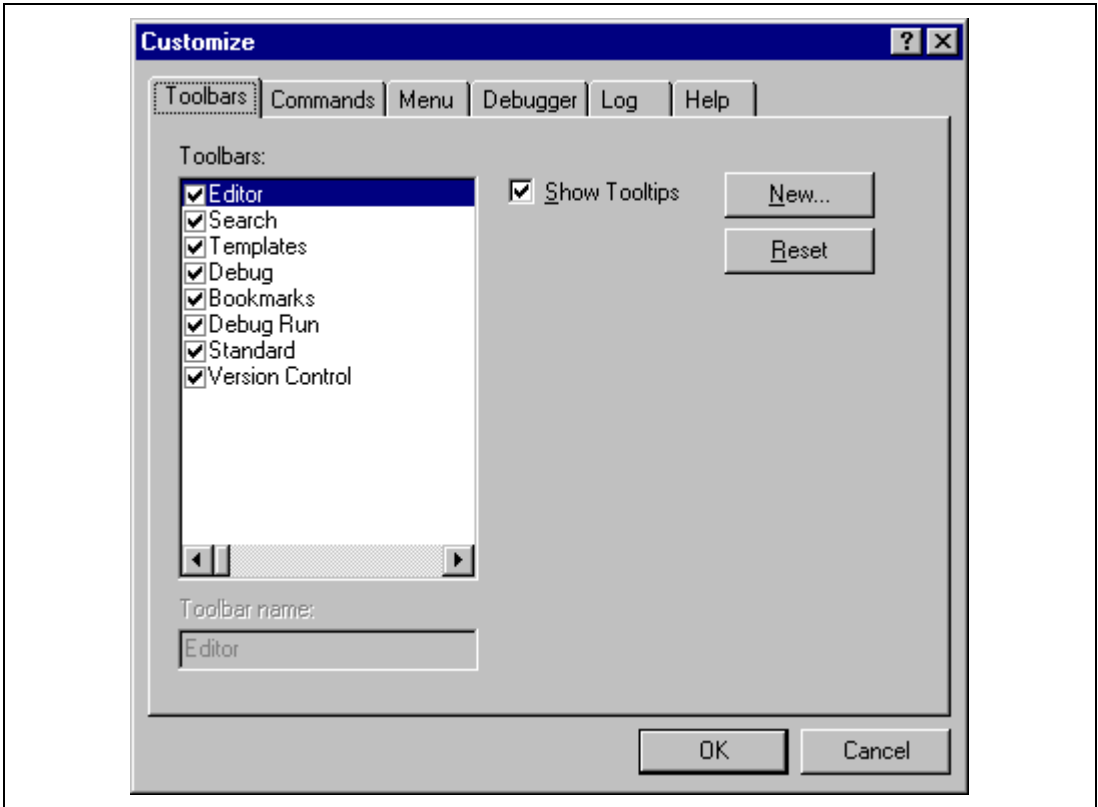
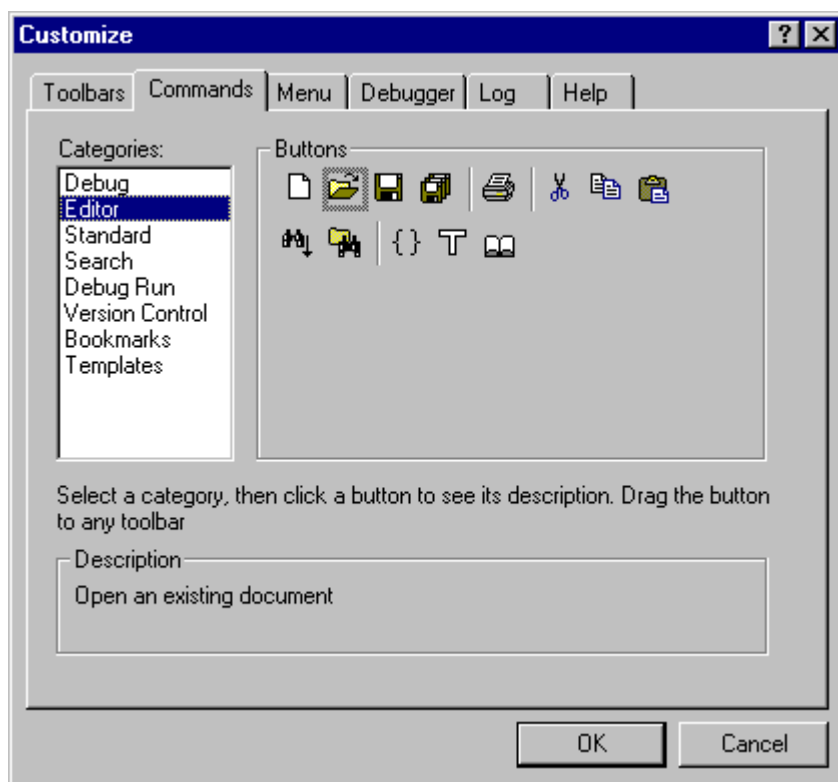
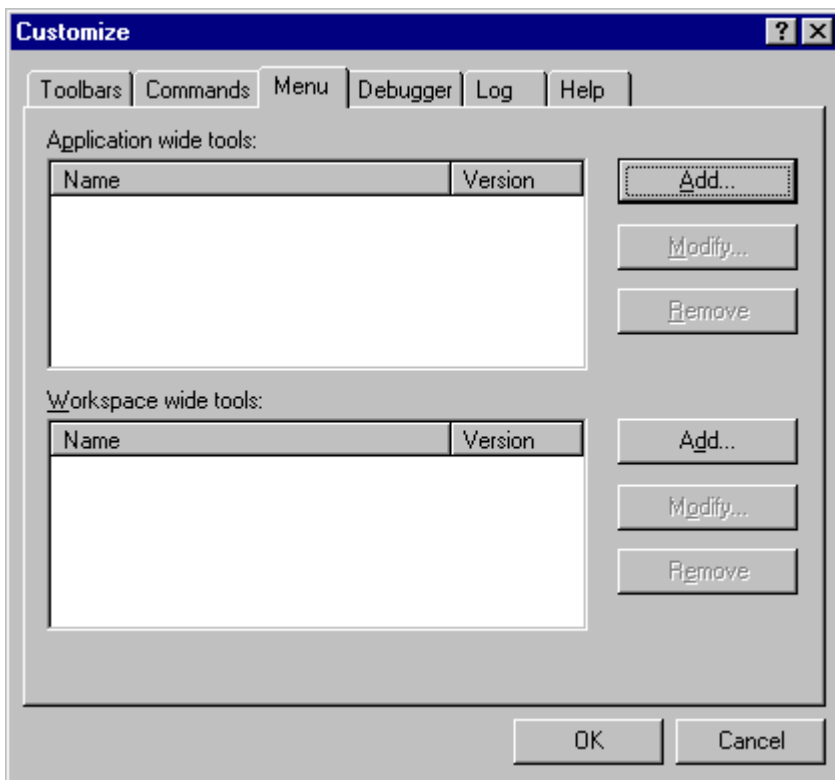
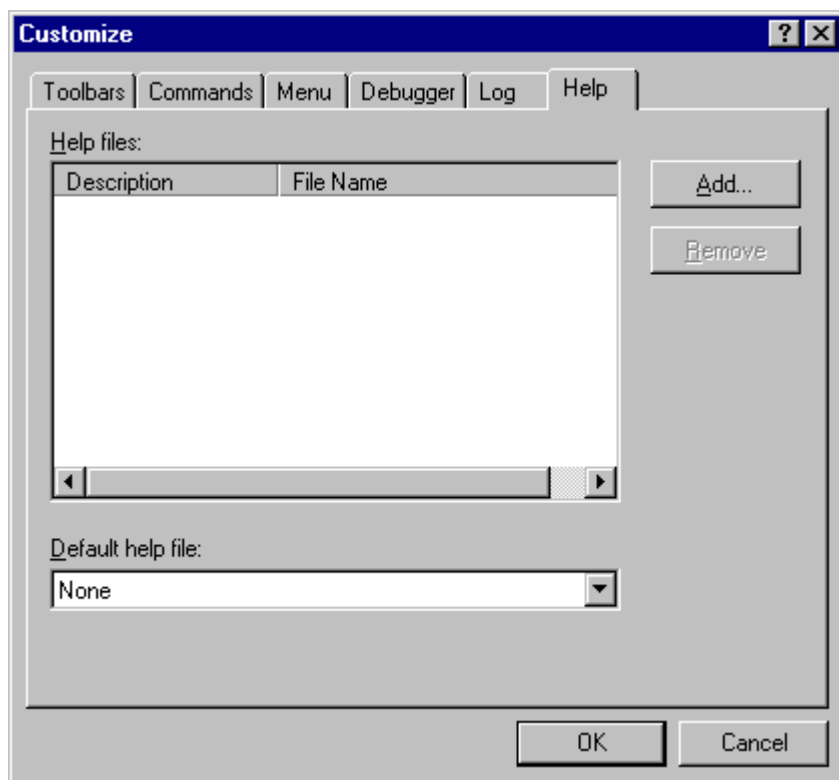

Figure 6.1: Customize Dialog Toolbars Tab
Figure 6.3: Customize Dialog Commands Tab
Figure 6.4: Customize Dialog Menu Tab
Figure 6.7: Customize Dialog Help Tab
The High-performance Embedded Workshop provides 2 standard toolbars as detailed in chapter 1, “Overview”. In addition to these, you may also construct your own toolbars via the * MERGEFORMAT “Customize” dialog (figure 6.1).
1. Select [**Tools->Customize...**]. The dialog shown in * MERGEFORMAT figure 6.1 will be displayed.
1. Select **[Tools->Customize...]**. The dialog shown in * MERGEFORMAT figure 6.1 will be displayed. Select the “Commands” tab (see * MERGEFORMAT figure 6.3).
1. Select [**Tools->Customize...**]. The dialog shown in * MERGEFORMAT figure 6.1 will be displayed. Select the “Commands” tab (see * MERGEFORMAT figure 6.3).
2. Select the user-defined toolbar from the “Toolbars” list, and the “Reset” button in * MERGEFORMAT figure 6.1 changes to the “Delete” button. Then click the “Delete” button.
1. Select [**Tools->Customize...**]. The dialog shown in * MERGEFORMAT figure 6.1 will be displayed. Select the “Menu” tab (see * MERGEFORMAT figure 6.4). The first thing for you to decide is whether you are adding a global application wide tool (“Application wide tools:”), which will be available to all of your workspaces. Or whether you wish to add a workspace wide tool (“Workspace wide tool:”), which is only valid for the current workspace. Once you have made the choice choose the relevant section of the dialog.
1. Select [**Tools->Customize...**]. The dialog shown in * MERGEFORMAT * MERGEFORMAT figure 6.1 will be displayed. Select the “Menu” tab (see figure 6.4).
1. Select [**Tools->Customize...**]. The dialog shown in * MERGEFORMAT figure 6.1 will be displayed. Select the “Menu” tab (see * MERGEFORMAT figure 6.4).
1. Select [**Tools->Customize...**]. The dialog shown in * MERGEFORMAT figure 6.1 will be displayed. Select the “Help” tab (see * MERGEFORMAT figure 6.7).